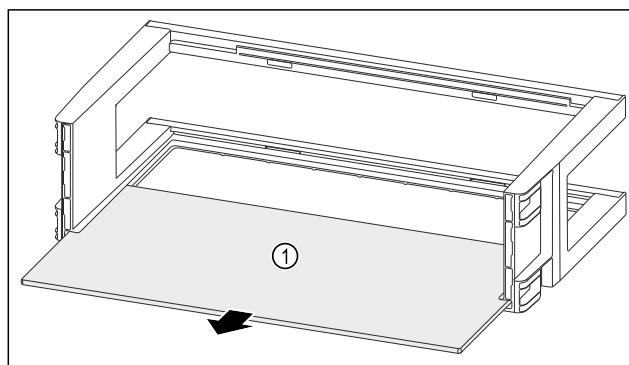

Fig. 89
- Remove the shelf Fig. 89 (1).